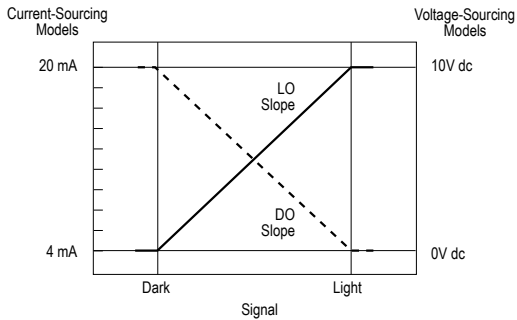

Figure 2. Analog output as a function of target position – two-point static or dynamic TEACH
Two-point static or dynamic TEACH: The sensor sets the first taught condition to the highest output level (either 20 mA or 10V), and the second taught condition to the lowest level (either 4 mA or 0V), and scales between these points. If the first condition taught has more returned light, the sensor will be in Light Operate mode (LO). If the first taught condition is darker, the sensor will be in Dark Operate mode (DO). To change the slope of the analog output (refer to Figure 2 on page 3), toggle LO/DO in Sensor Setup on page 10.